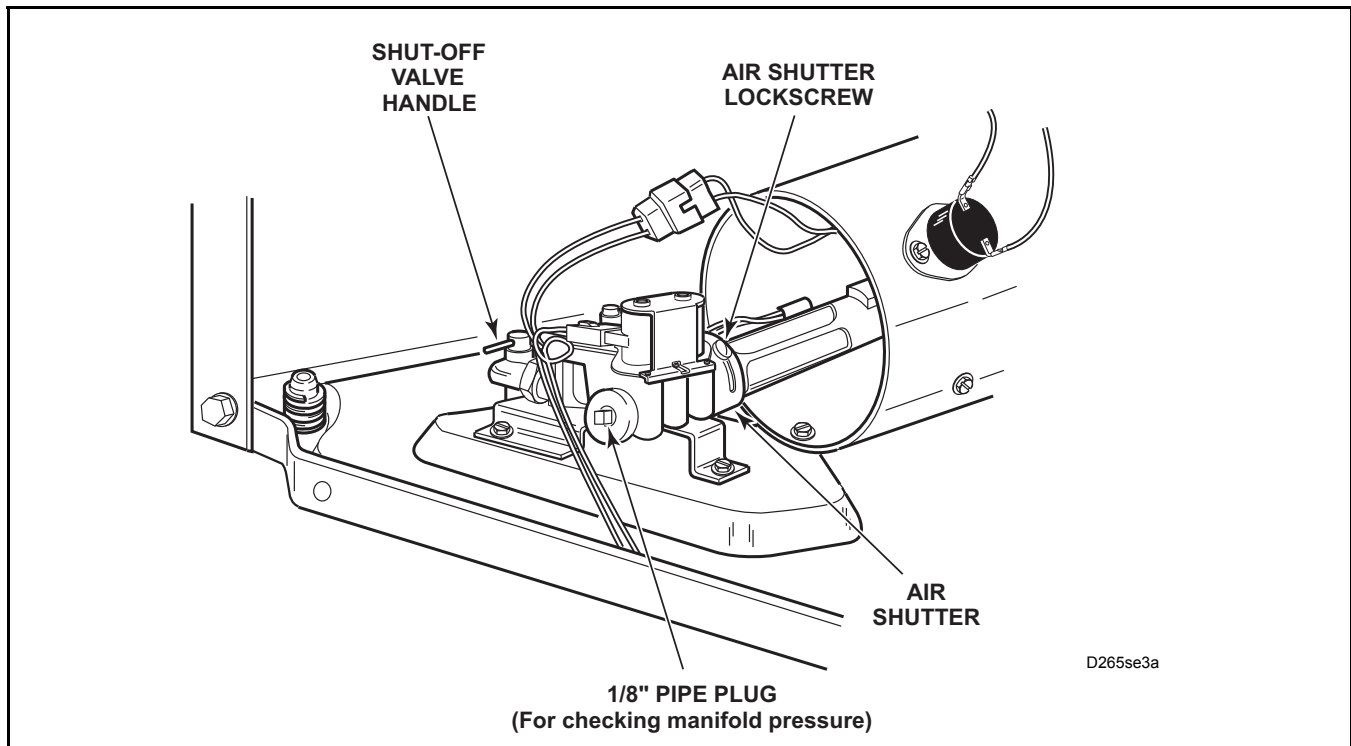

Figure 8
- e. Allow the dryer to operate for approximately five minutes, then loosen the air shutter lock screw. Refer to *Figure 8*.
- g. After proper flame is obtained, tighten air shutter lock screw firmly. Refer to *Figure 8*.
- c. Close main gas shut-off valve. Refer to *Figure 8*.